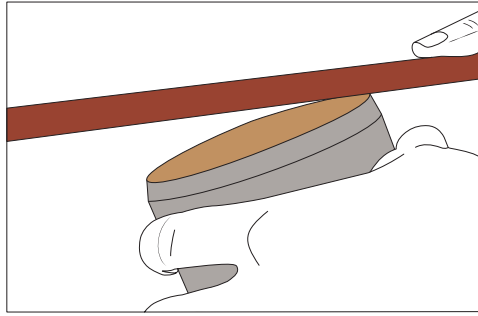

Figure 5 Level soil with top of sample ring
9. Use a knife or scissors to cut the protruding material from the top and the bottom sides of the soil sample ring so both covers fit on each end (Figure 5).